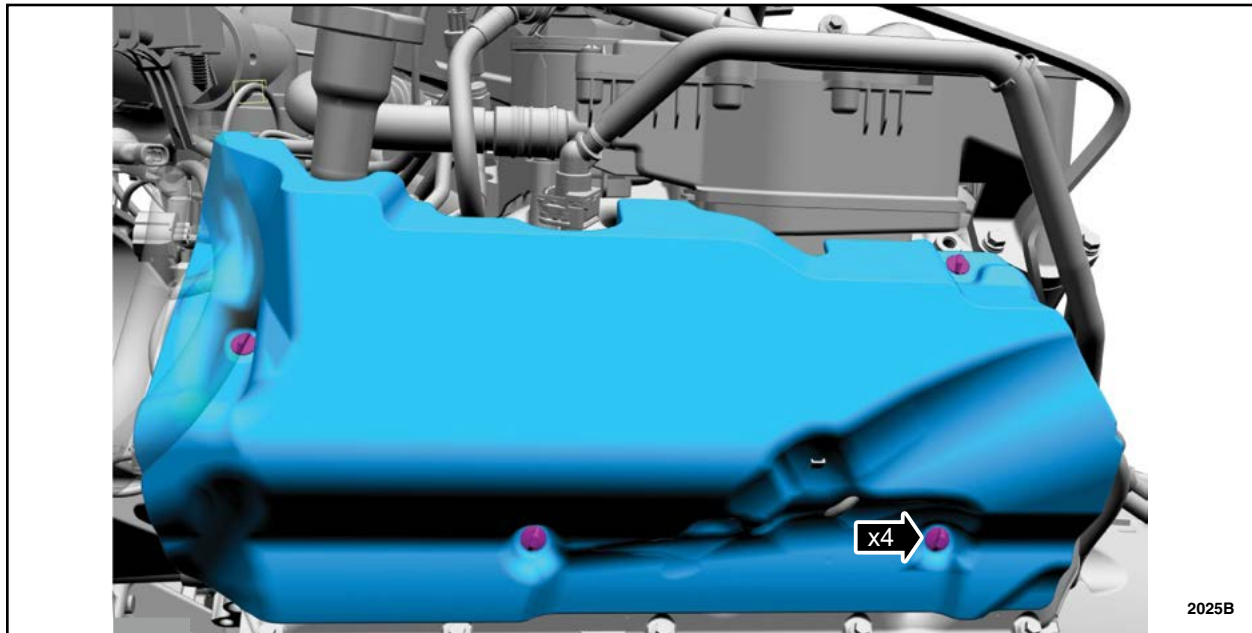

FIGURE 1
3. If equipped, remove the left engine sound shield retainers, then remove the sound shield. See Figure 1.
23. If equipped, install the left engine sound shield and retainers. See Figure 1.